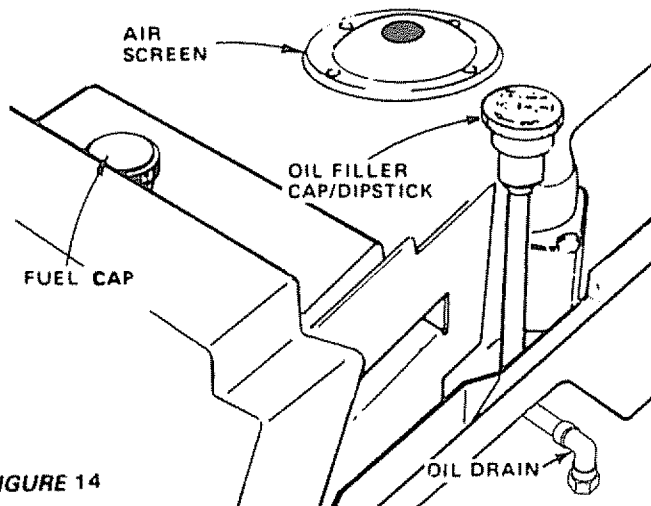

FIGURE 14
- Add oil through the oil filler cap/dipstick (Fig. 14).
Several minutes after stopping engine, check engine oil level with tractor on level ground. Wipe dipstick (Fig. 14) clean, screw it down tight for a few seconds, remove and read oil level. If necessary, add oil until "FULL" mark is reached. (See chart above). NOTE: DO NOT OVERFILL.
Air screen (Fig. 14) must be kept free of dirt and chaff to prevent engine damage from overheating. Clean with a wire brush or compressed air to remove dirt and dried gum fibers.